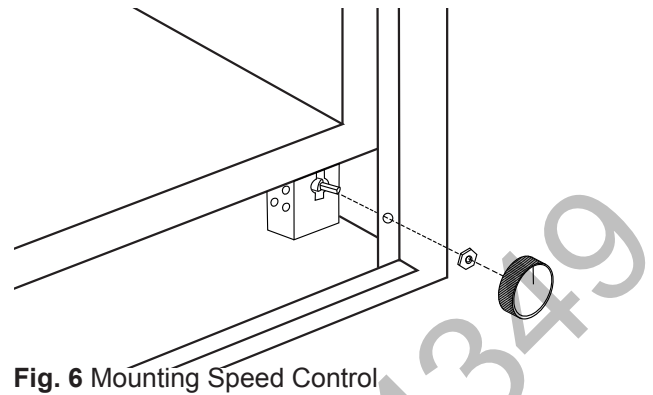

Fig. 6 Mounting Speed Control
4. Place the stem of the speed control into the hole for the control. Place the mounting nut over the plastic stem and tighten. (See Fig. 6)